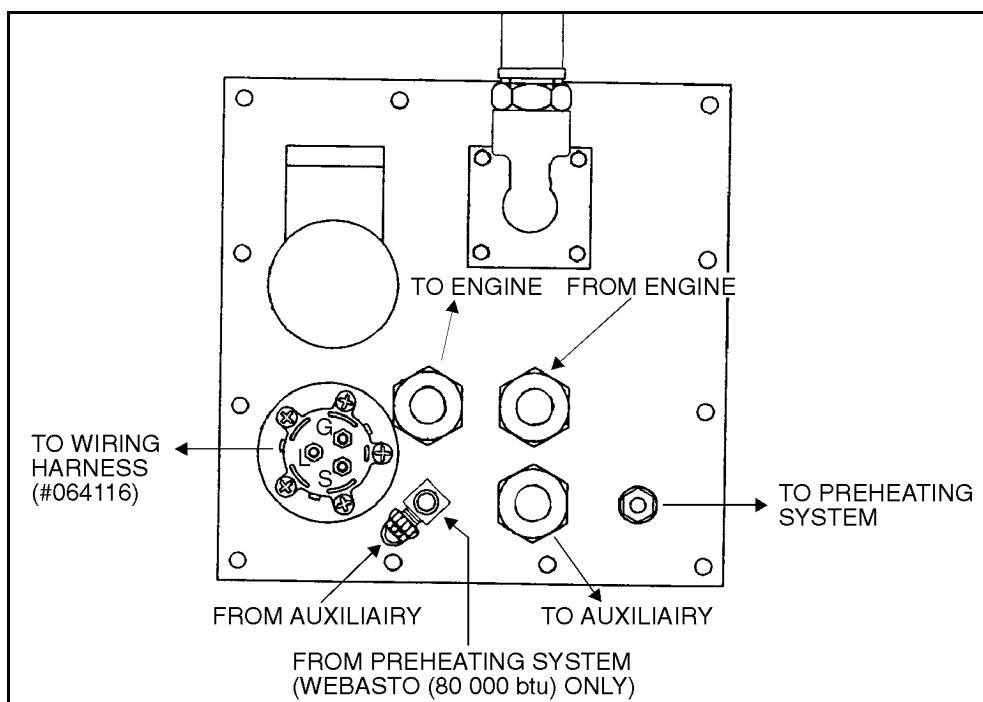

FIGURE 3: FUEL TANK CONNECTION PLATE
- Remove plug on "to preheating system" port on fuel tank (Fig. 3). Using a *Loctite 567™* type thread sealant, install auxiliary suction tube assembly (Prévost #031993) on "to preheating system" port.
- Remove plug on "to preheating system" port on fuel tank (Fig. 3). Using a *Loctite 567™* type thread sealant, install auxiliary suction tube assembly (Prévost #032013) on "to preheating system" port.
- Remove plug on "from preheating system" port on fuel tank (Fig. 3). Using a *Loctite 567™* type thread sealant, install straight adapter (Prévost #501316), then straight hose fitting (Prévost #507602).
8. Using a *Loctite 567™* type thread sealant, screw engine supply and return lines to fuel tank connection panel (Fig. 3).
9. If applicable, using a *Loctite 567™* type thread sealant, screw preheater supply line, preheater return line, auxiliary supply line and/or auxiliary return line to fuel tank connection panel (Fig. 3).
10. In condenser's compartment, connect wiring harness (Prévost #064116) connectors *C107* and *C152*. Run wiring harness through grommet, then connect wires *0*, *76*, and *76C* to terminals *G*, *S*, and *L* respectively, on connection plate (Fig. 3). If vehicle is equipped with Espar (40 000 btu) preheater, connect wires *127W* and *128W* to the fuel metering pump (Fig. 4) (wires could be connected on either of the two connectors without affecting functionality), otherwise, secure wires with cable ties.